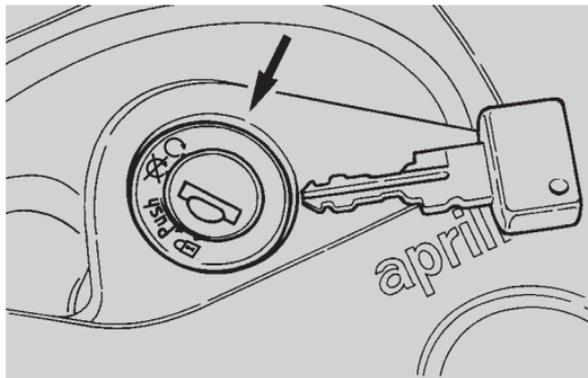

Fig. 26
- turn the ignition switch to position "⊗" (Fig. 26);